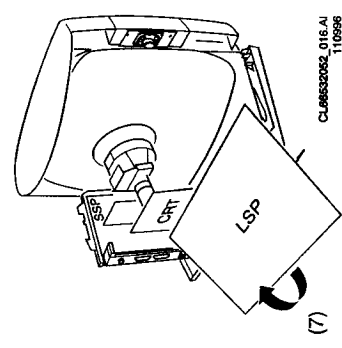

Figure 4.4
2. Remove screw (3) from the LOT bracket.
3. Remove the bracket by releasing click (4) and pulling the bracket upwards.
4. Release clicks (5) and (6).
- LSP copper side with table/workbench (Figure 4.4)**
4. Turn the LSP underneath the CRT panel (keep cable S15/L15 UNDER the audio module) as indicated by the arrow (7).